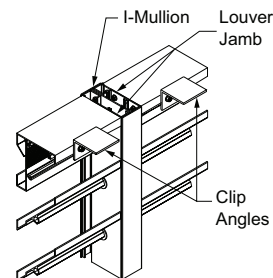

Fig. 3.3 Visible Mullion
3. For visible mullions, install I-mullion on right hand jamb (as viewed from the exterior). See fig. 3.3.